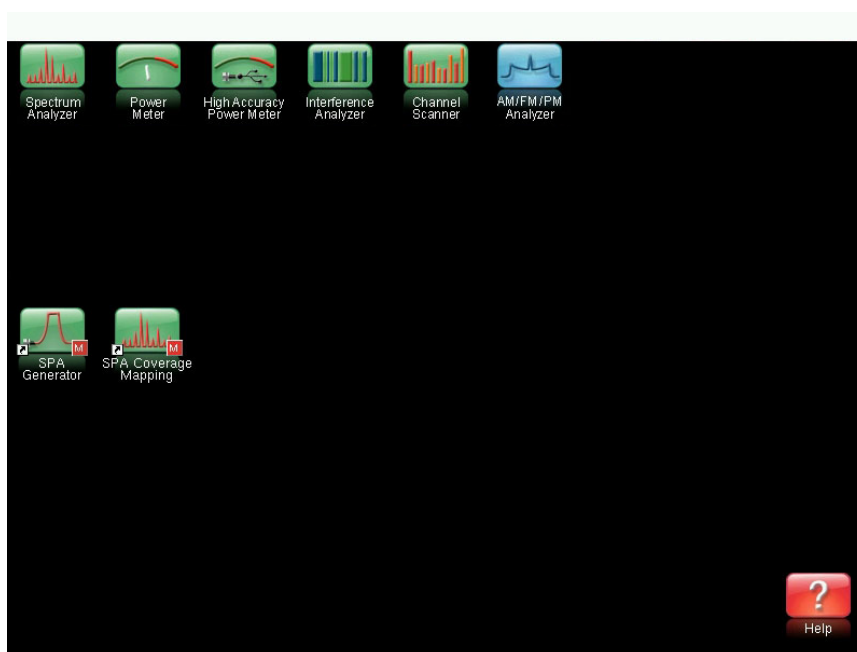

Figure 3-1. Menu Screen - Shortcuts to Installed Applications
Press the **Menu** key, then press the shortcut icon for the desired application, or measurement mode. See Figure 3-1. Alternatively, you can press **Shift** followed by the **Mode (9)** key, then select the measurement mode from the Mode Selector list box.